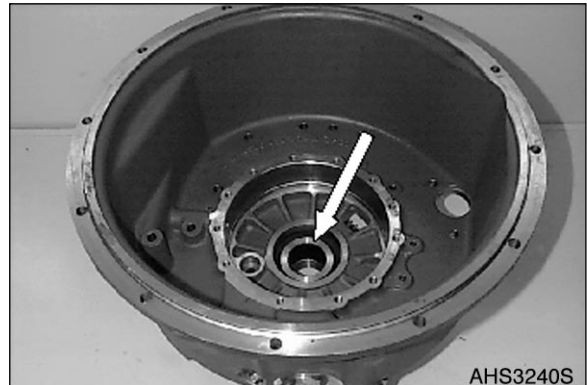

Figure 376
2. Introduce spur gear (Figure 376), starting from the side, with the long collar facing upward, and bring it in position.